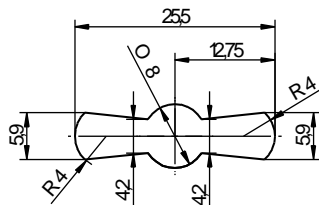

Fig. 1: Key guide 86101
- Use of the Kaba Mauer key guide (see Fig. 1) or the Kaba Mauer key carrier guide (see Fig. 2) is recommended. Considering DIN 2768-mH, the keyhole in the door of the secure storage unit should be dimensioned accordingly (see Fig. 1 or 2).